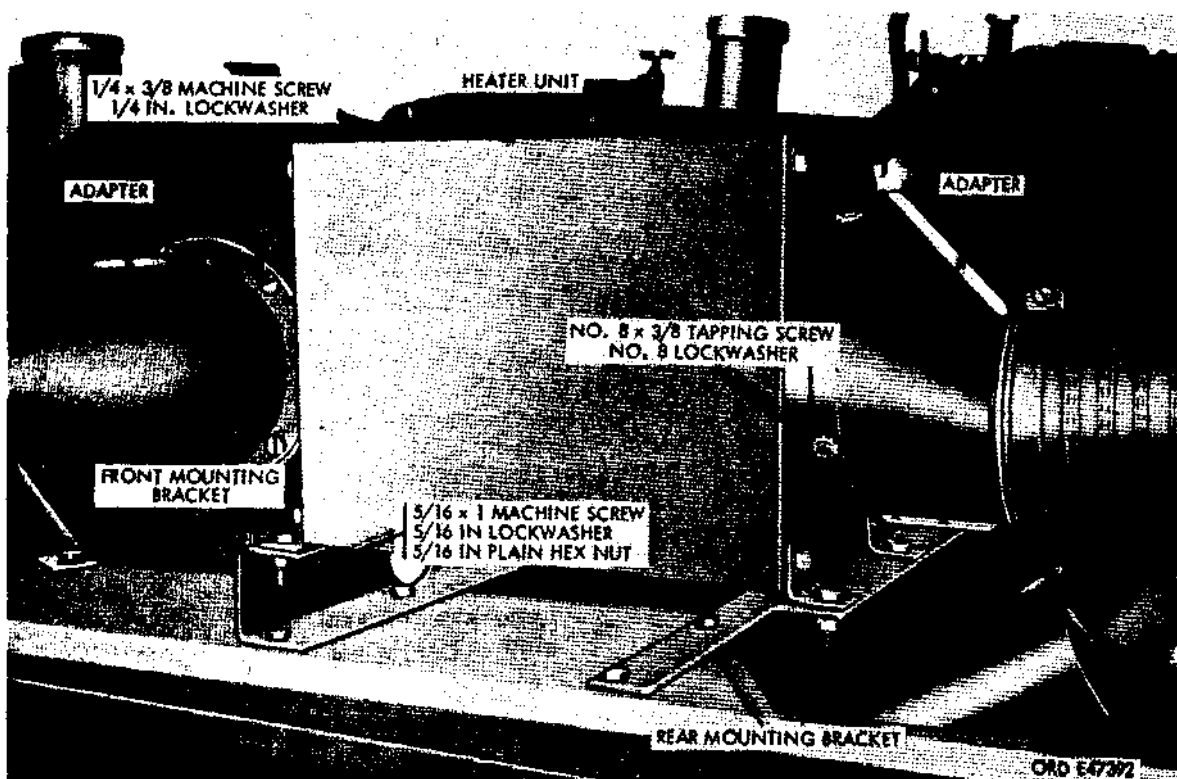

Figure 603. Heater unit installed
- (5) Secure brackets (W and X, fig. 599) to heater unit (AA, fig. 599) with four 5/16 x 1 machine screws, lockwashers, and hex-nuts (fig. 603).
- (6) Secure adapter (Y, fig. 599) to front of heater unit (AA, fig. 599) with four 1/4 x 3/8 machine screws, lockwashers, and hex-nuts. Secure adapter (NN, fig. 599) to rear of heater unit with four No. 8 X 1 tapping screws and lockwashers (fig. 603).
- (8) Position heater unit on fender so that hole in outer end on rear mounting bracket (fig. 603) is aligned with 5/16-inch hole in fender. Insert machine screw through bracket and hole for use as a pilot. Raise hood side panel and lock in place. With pilot screw in place, position heater unit so that adapter on front of heater is aligned with adapter on hood side panel. Using the mounting brackets as a template, mark the location of the three remaining mounting holes on fender. Remove heat and drill three 5/16-inch holes.
- (9) Position heater unit on fender and secure with four 5/16 x 1 machine screws, lockwashers, and hex-nuts (fig. 603).